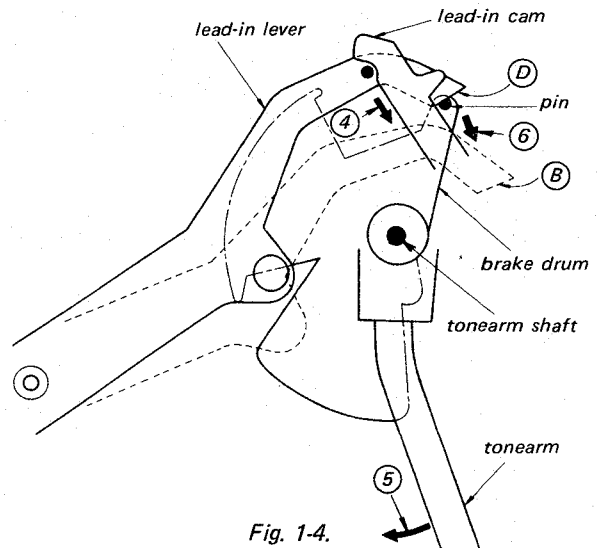

Fig. 1-4.
5. At this time, the lead-in lever moves in the direction of arrow ④, guided by the lead-in cam which moves together with the main lever. The tip D of the lead-in lever moves to position B, pushing against a pin on the brake drum in the direction of arrow ⑥. And since this brake drum moves in unison with the tonearm, the tonearm will move across (horizontal movement) in the direction of arrow ⑤. (See Fig. 1-4.)